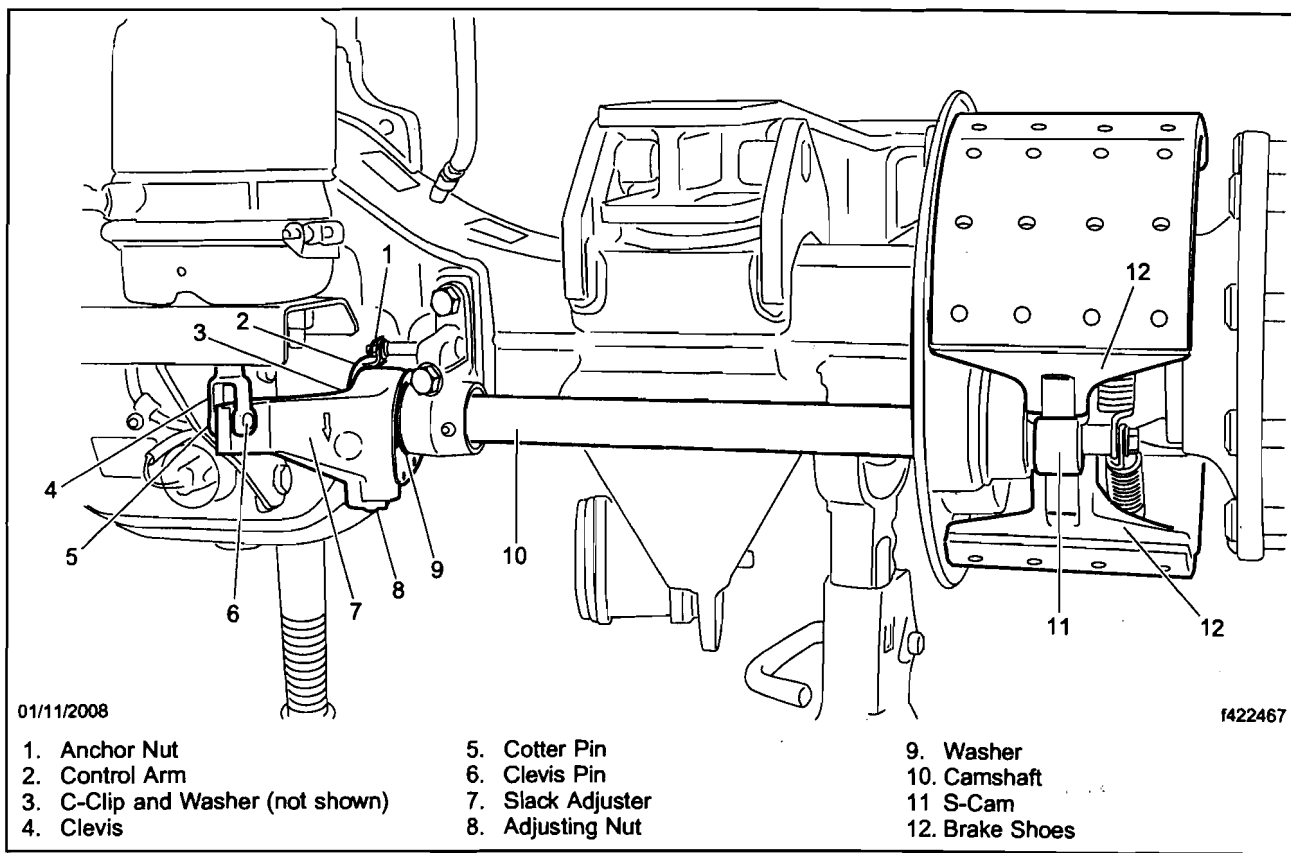

Fig. 1, Slack Adjuster and Camshaft Installation
7. Remove the cotter pin from the clevis pin that connects the brake chamber pushrod to the slack adjuster. Remove the clevis pin. See Fig. 1.